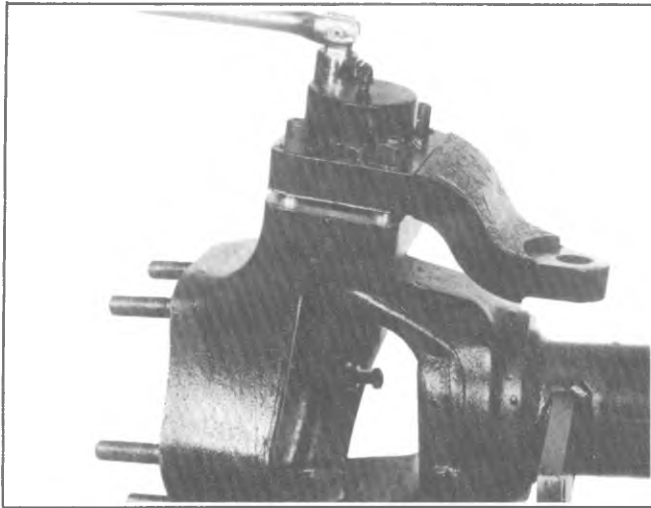

Fig. 3C-19K--Removing Nuts Alternately
3. Torque the yoke upper ball stud adjusting sleeve to 50 ft. lbs. using Spanner J-23447. See Figure 3C-15K.